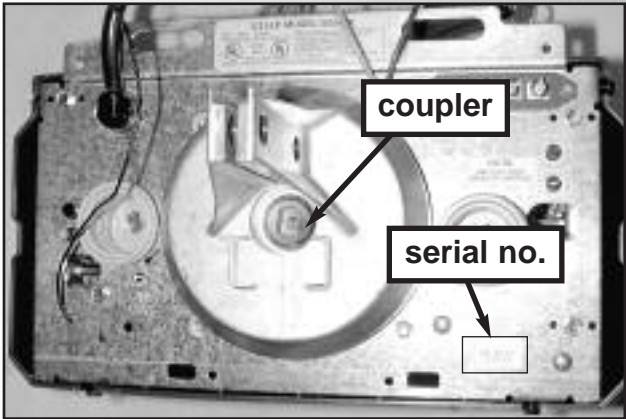

Fig. 1-1
WK / YY / PI (See Fig. 1-1)
1. Set power head so that front panel (with end of shaft and boom attachment flange) is facing up. Fig. 1-1.
- Turn it as needed until it engages with shaft. (It will drop down over end of shaft and will no longer turn freely. Fig. 1-1.